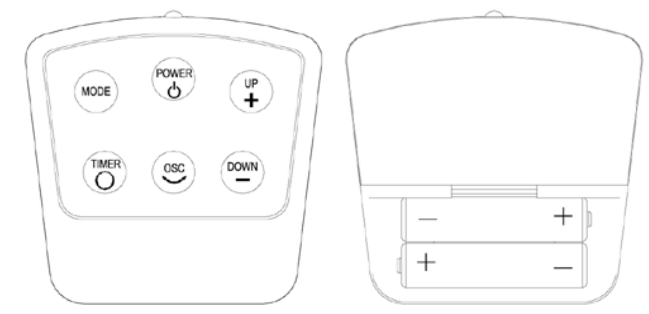

FIGURE 7
The heater may be operated by the manual controls located on the heater (as shown in FIGURE 1) or by your remote control (shown in FIGURE 7 ).
1. Install two "AAA" batteries as shown in FIGURE 7.